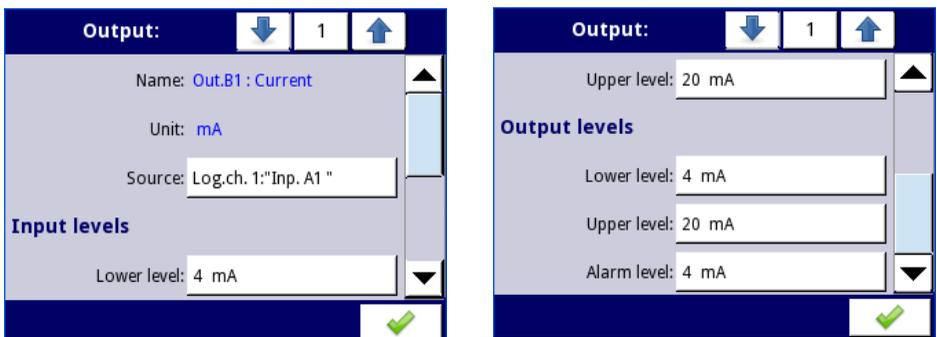

Fig. 7.89. Parameters of the **Passive current** output
- **Lower level** and **Upper level** - these parameters limit the range of the output signal, below this range the input signal will have a **Lower level** value and above this range the signal will have an **Upper level** value, the relationship between Lower and Upper levels is linear and it is limited by a defined range, see **Fig. 7.89**,